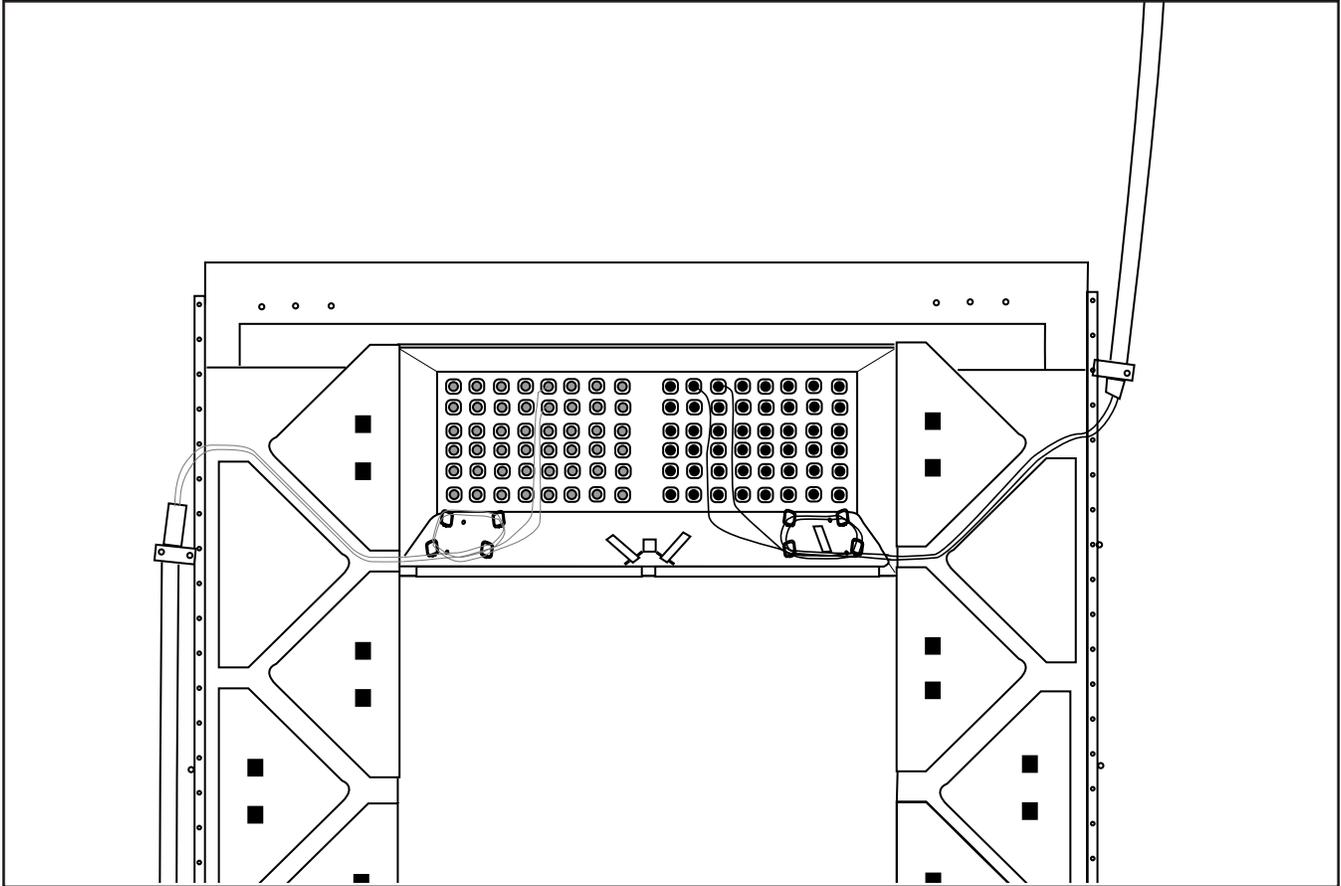

Figure 6
**8.3** Route the cable along the rack uprights and secure it to the uprights with cable ties (Figure 6).